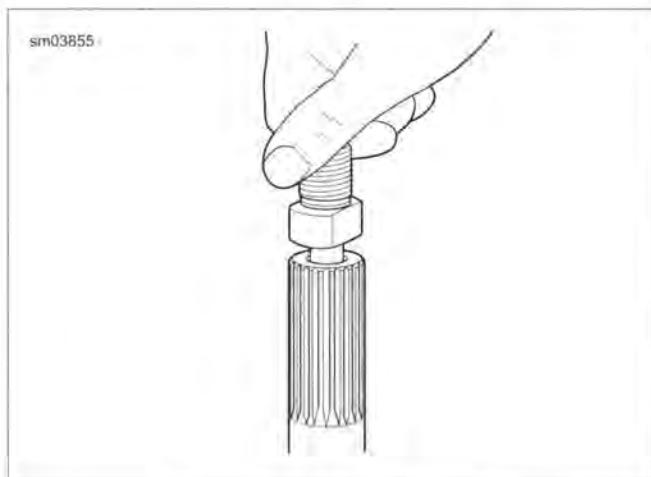

Figure 3-124. Pilot Adapter
- a. See Figure 3-124. Turn pilot adapter into sprocket shaft.